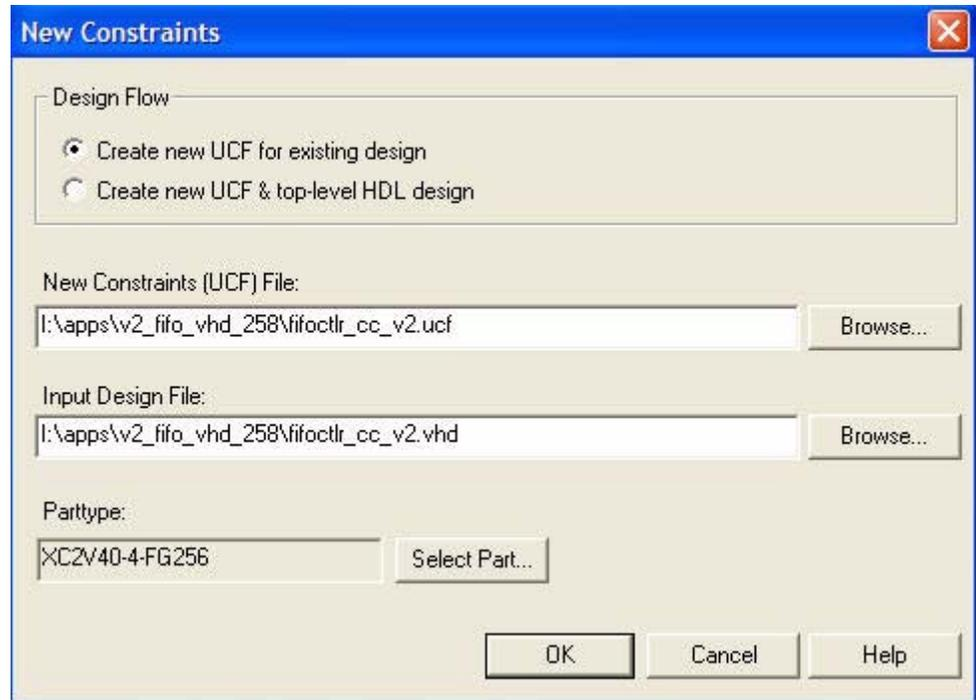

Figure 11: The New Constraints dialog box
2. Open the HDL file and specify an UCF name in PACE (Existing HDL (File -> New) file option). If launching PACE from Project Navigator, this step is automatically done for you. Figure 11 shows the New Constraints dialog box.